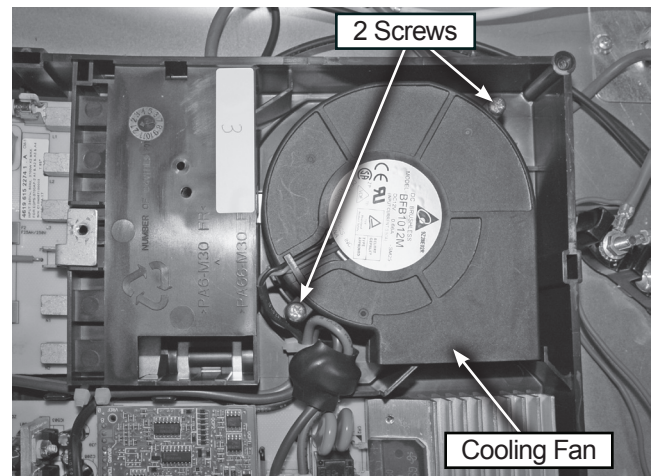

Figure 4
- b) Remove two screws from the cooling fan and lift the fan from the power control board, see figure 4.